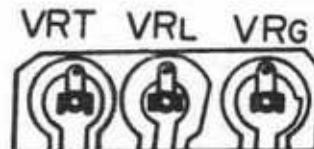

Fig. 2-5
- Adjust VRT for the most accurate shutter speed. (Fig. 2-5)